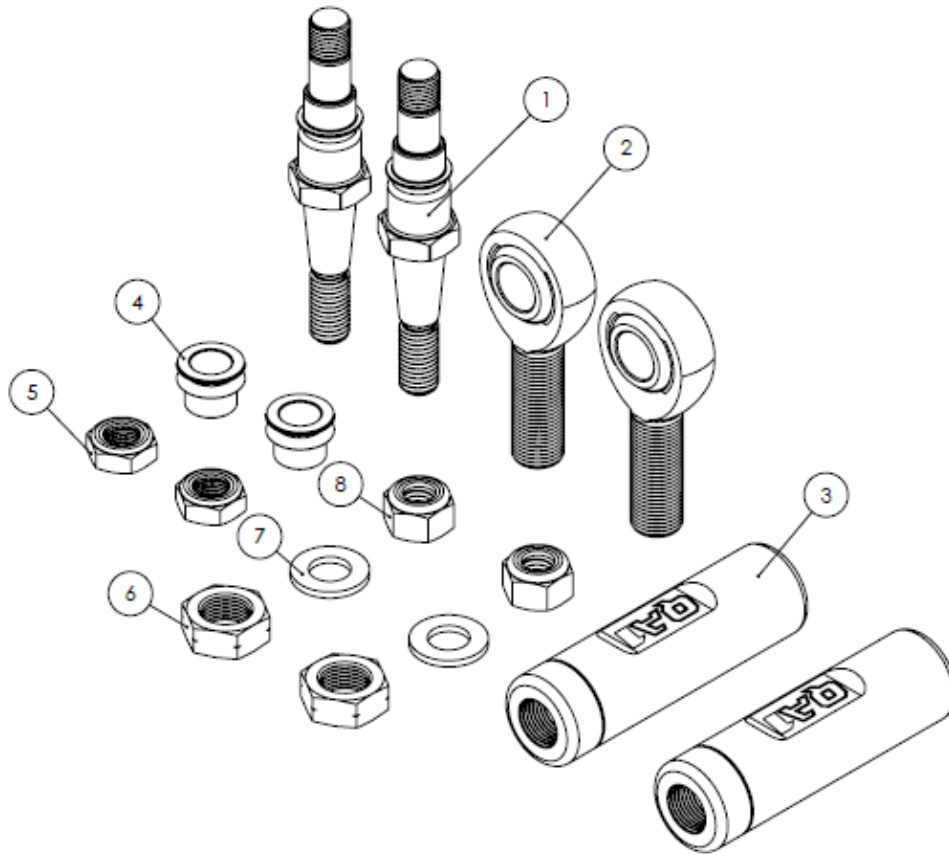

Figure 2
1. Thread the included jam nuts onto the rod ends. Note these are left-hand threads. **(Figure 2)**